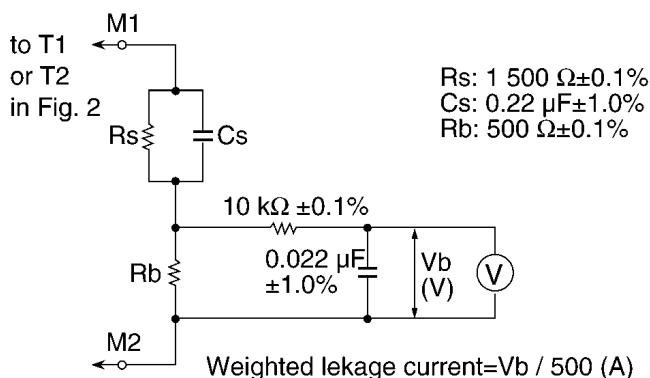

Fig. 1
1. Prepare the measuring circuit as shown in Fig. 1.